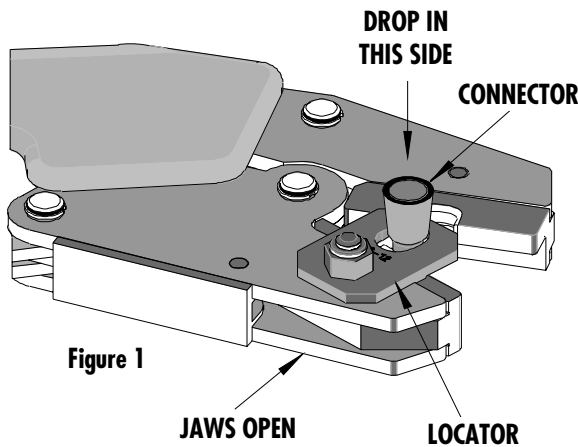

Figure 1
1. Hold hand tool with the locator facing up. Insert the closed end connector in the correct slot (12-22). Make sure that the shoulder of the connector is resting on the locator plate (See Figure 1).